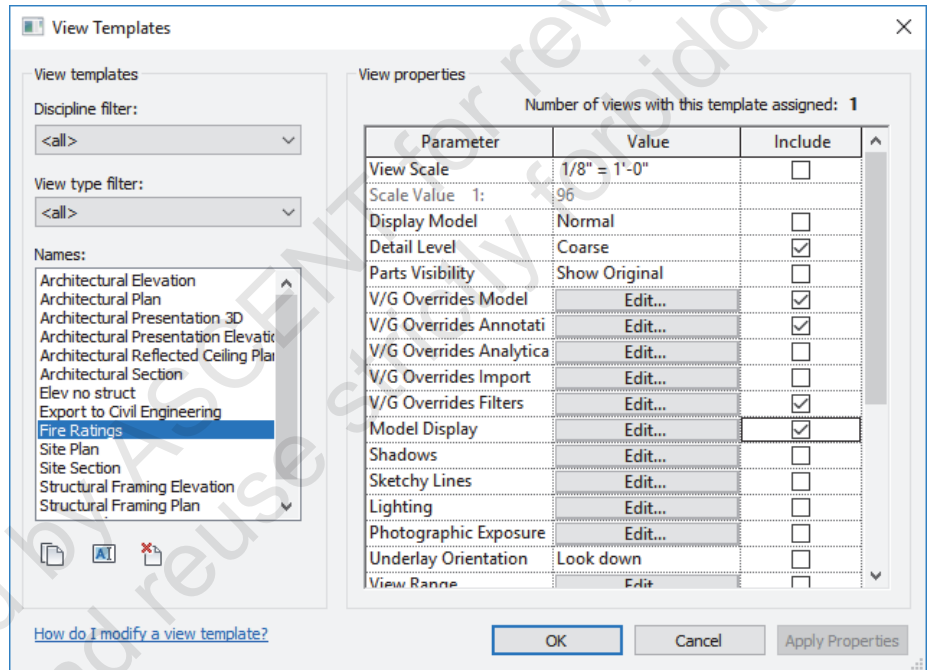

Figure 1–147
6. In the *View properties* group, in the *Include* column, clear the check marks from all of the options except *Detail Level*, *V/G Overrides Model*, *V/G Overrides Annotation*, *V/G Overrides Filters*, and *Model Display*, as shown in Figure 1–147. Click **OK**.